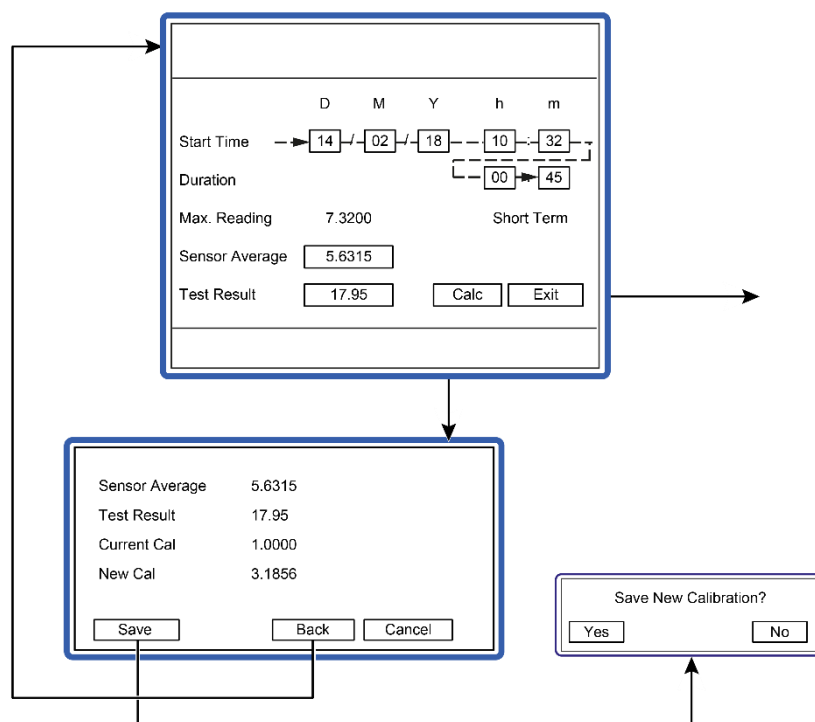

Figure 31: Calculating the calibration factor automatically.
2. Select **Calc** to perform the calculation and display the new calibration factor, **New Cal** (see **Figure 31** above).